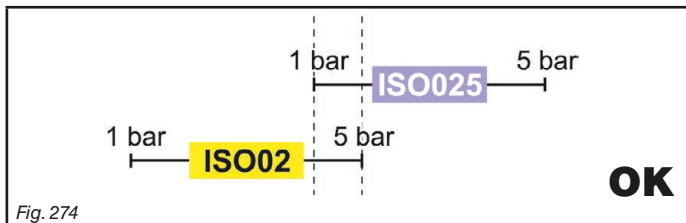

Fig. 274
- **Compatible nozzles:** the flowrate at 1 bar of the ISO025 nozzle is LOWER than the flowrate at 5 bars of the ISO02 nozzle (Fig. 274).